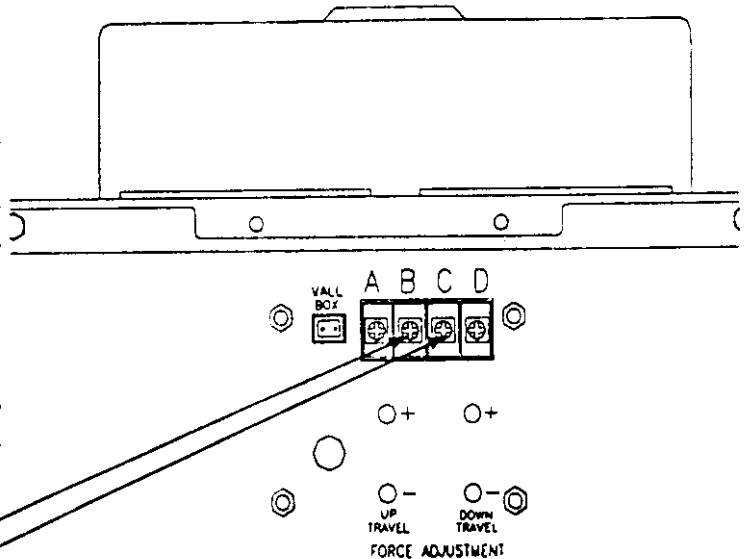

Figure 13B.
Step 8: Installing the Standard Wall Push Button. Remove about 1/4" of insulation from both ends of the 2 strand low voltage bell wire. Connect one end to both screw terminals on the back of push button. Select a convenient place near an access door, 5 ft from the floor and out of reach of children, for mounting. (2) 1-1/2" Screws and dry wall anchors supplied.) Install the Caution Label fig.12B page 12, near this installation. Run bell wire up the wall and across to the opener. Secure with insulated staples. Attach to Terminals B & C fig. 13B.